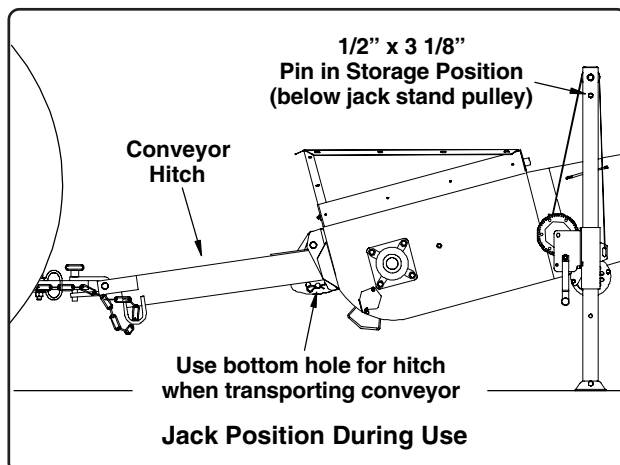

Fig. 1
When transporting the conveyor, the hitch should be secured using the hole in its mounting bracket that is closest to the inlet hopper (See Fig. 1). Using this hole will allow the conveyor, when in its full down position, to be at its lowest height possible for transport.
2. Use the hitch jack to raise inlet just far enough to relieve pressure on the locating pin. Raise inlet until locating pin can be reinserted into the front hole used for transport (See Fig. 1 on Page 9).